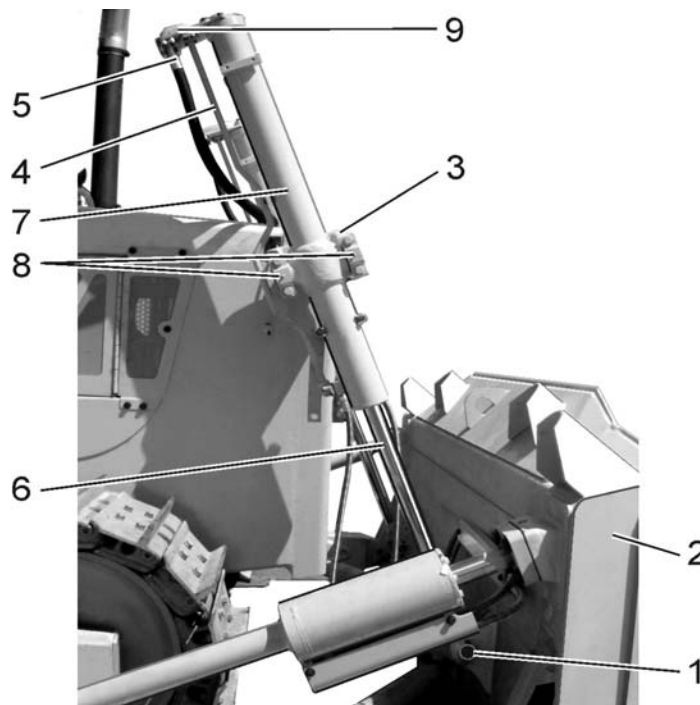

Fig. 10C.1. Blade Lift Cylinder Removal
1. Disconnect the lift cylinders (7, Fig. 10C.1) at the blade (2) by drive out the mounting pins (1) on both side of the dozer.